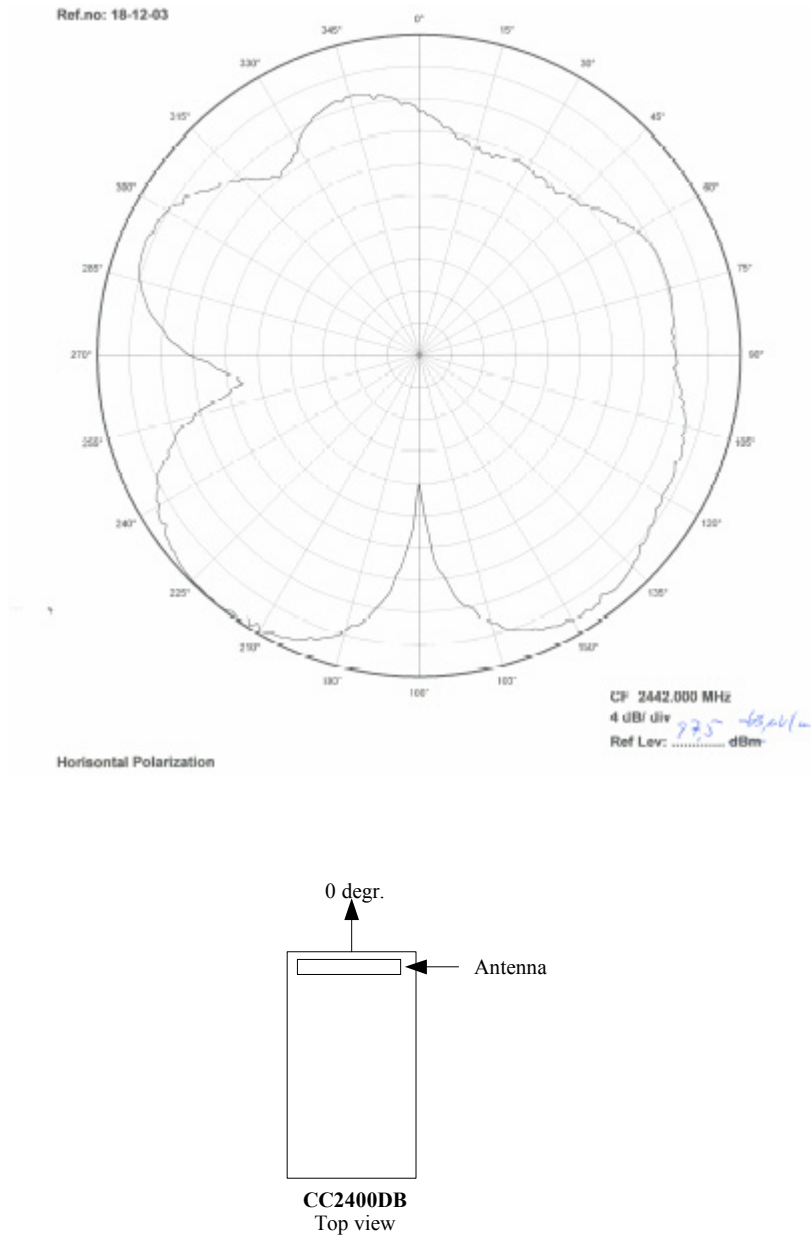

Figure 3: Radiated pattern horizontal mounting
quarter wavelength ($\lambda/4$). A reduction of the antenna height (H) will in general decrease the antenna bandwidth. Please see figure 3 for the antenna dimensions.
Figure 3 depicts the antenna pattern while the CC2400DB is mounted horizontally with the antennas parallel section aligned to the 0 degree direction.